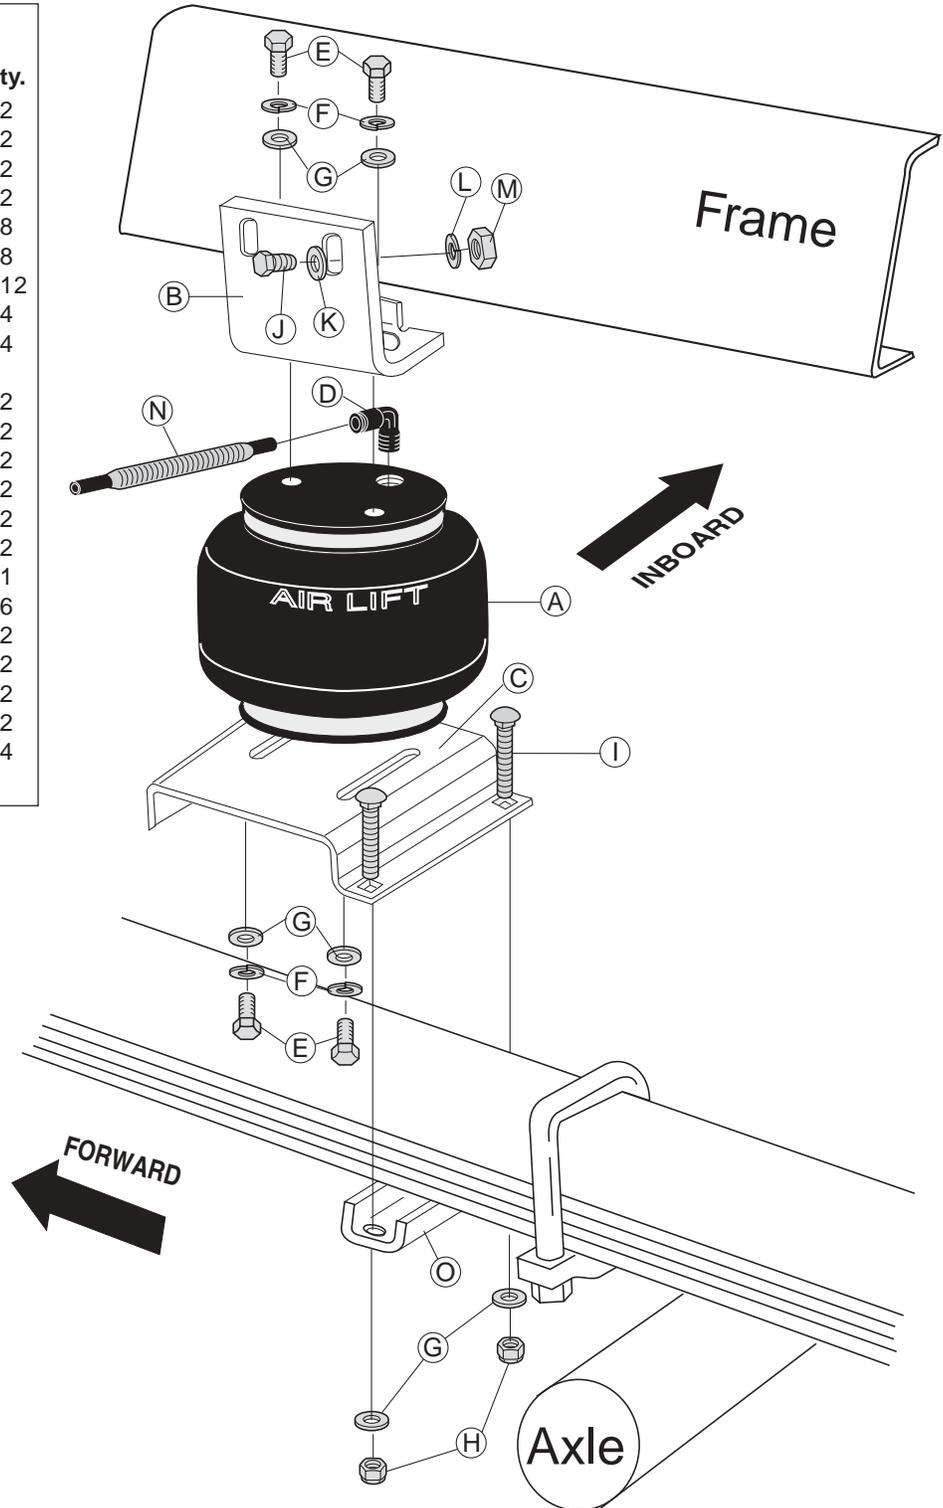

Figure 1
* (not shown in Figure 1)
Refer to Figure 1.